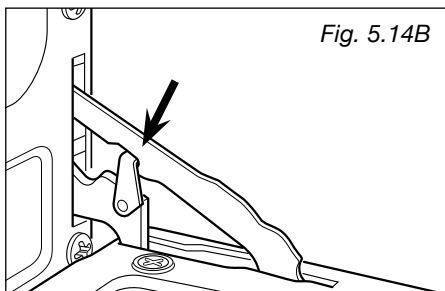

Fig. 5.14B
- Attach the retaining rings to the hooks on the left and right hinges (fig. 5.14B).